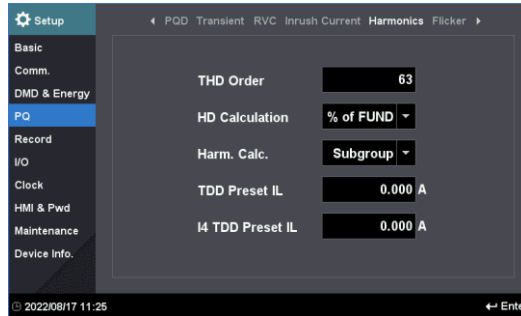

Figure 4-12 PQ-Harmonics Setup Interface
*The Maximum Fundamental Current Demand (I_L) can be user-predefined via **TDD Preset IL** (see Figure 4-12) or calculated automatically based on the load current.